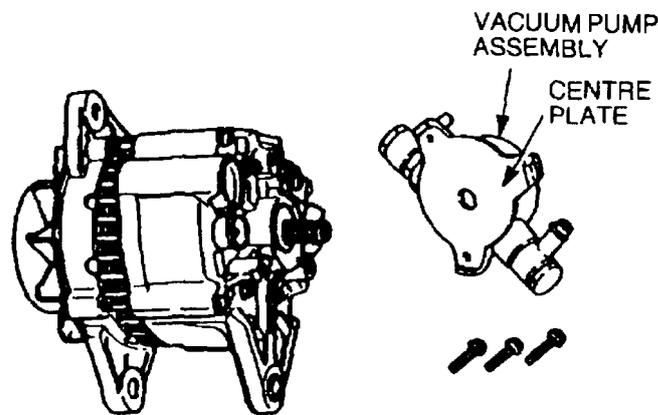

Figure 285 Removing the Vacuum Pump
- (1) Remove the bolts securing the vacuum pump to the alternator, secure the centre plate and remove the vacuum pump from the alternator rotor shaft (Figure 285).